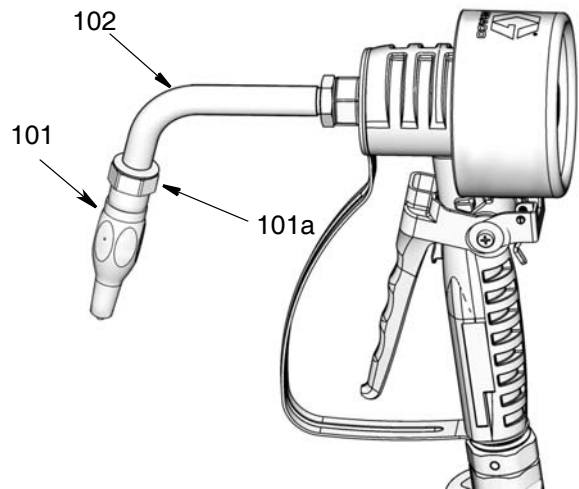

FIG. 7
- a. Thread nozzle (101) onto extension (102) as shown in FIG. 7.
- b. Use an open-end adjustable wrench on flats of nozzle bushing (101a) (FIG. 7) to tighten fitting.